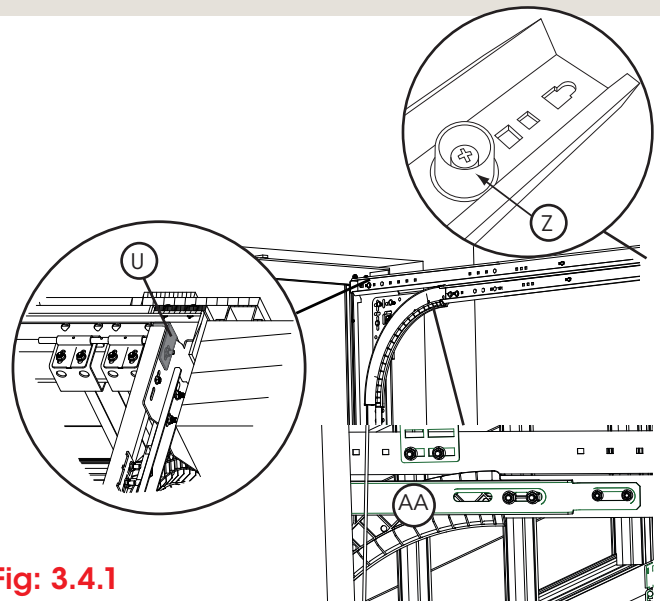

Fig: 3.4.1
- b) Install the plate stopper (U) from the outside of the top of the flag bracket and through both the top track and the flag bracket using 5/16 flat head bolts as shown in Fig 3.4.1.
- c) Place the horizontal bracket (AA) on each horizontal track as shown in Fig 3.4.1 and install the safety stop (Z) at the end of each horizontal track.